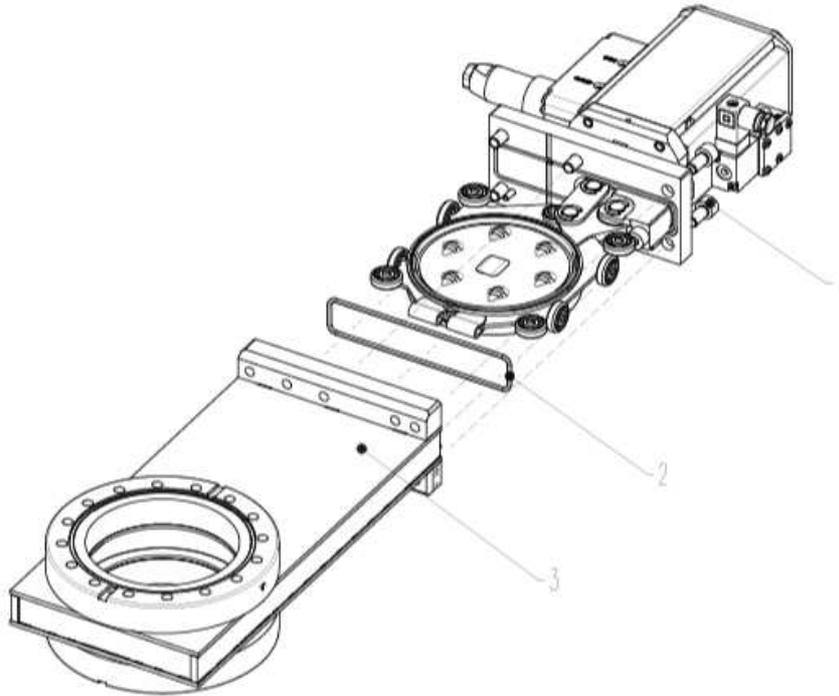

Figure 7-2
5. Remove screws (1) according to «Figure 7-2» on page 18.
6. Lift actuator / mechanism unit carefully from body without touching the body wall; see «Figure 7-2» on page 18. Use only the eyebolt threads; see dimensional drawing.
16. Mount screws (1) according to «Figure 7-2» on page 18.